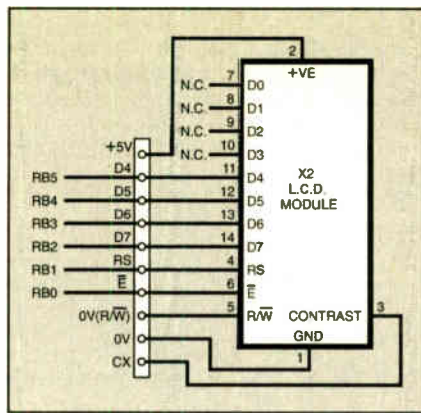
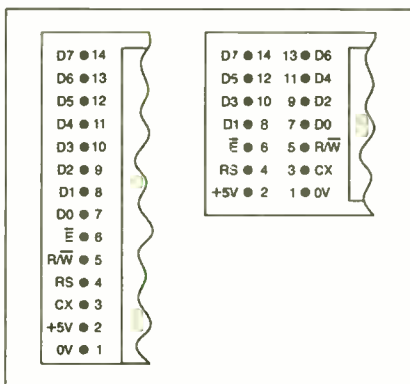

Fig.7. Connection between l.c.d. and TK3 p.c.b.
Fig.8. The two "standard" l.c.d. module pinout arrangements.
- L.C.D. as in Fig.7
Disconnect the l.c.d. module and connect the l.c.d. to the p.c.b. as in Fig.7. Typical l.c.d. pinouts are shown in Fig.8. Load TK3TUT29.HEX and run it. While reading these next paragraphs, refer to Listing 29 as appropriate.
It is important to note that the port bits which are used in these routines to control the Data, RSLINE and E lines reflect the physical connections between the PIC and the l.c.d. as shown in Fig.7. It is permissible to use other PIC port lines for this purpose, but the controlling bits of the software must be changed accordingly.
L.C.D. as in Fig.7